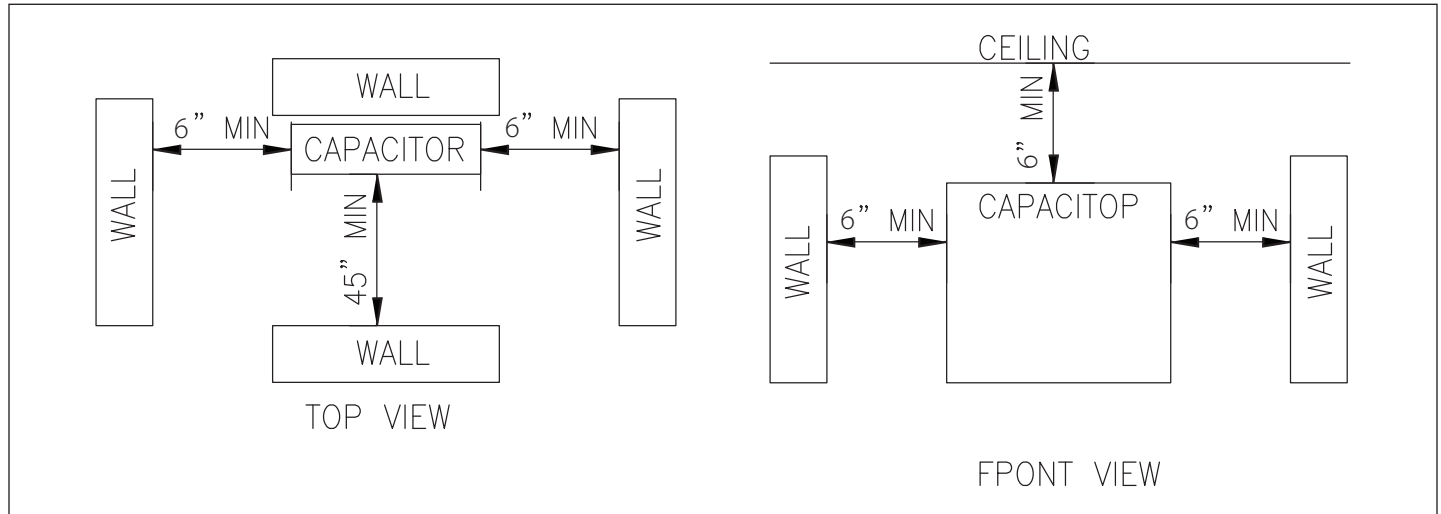

**Figure 1. CT placement schematic**
- CT polarity must be observed accurately for proper functioning of the capacitor bank. H1 should always face the source (utility) side. See **Figure 1**.